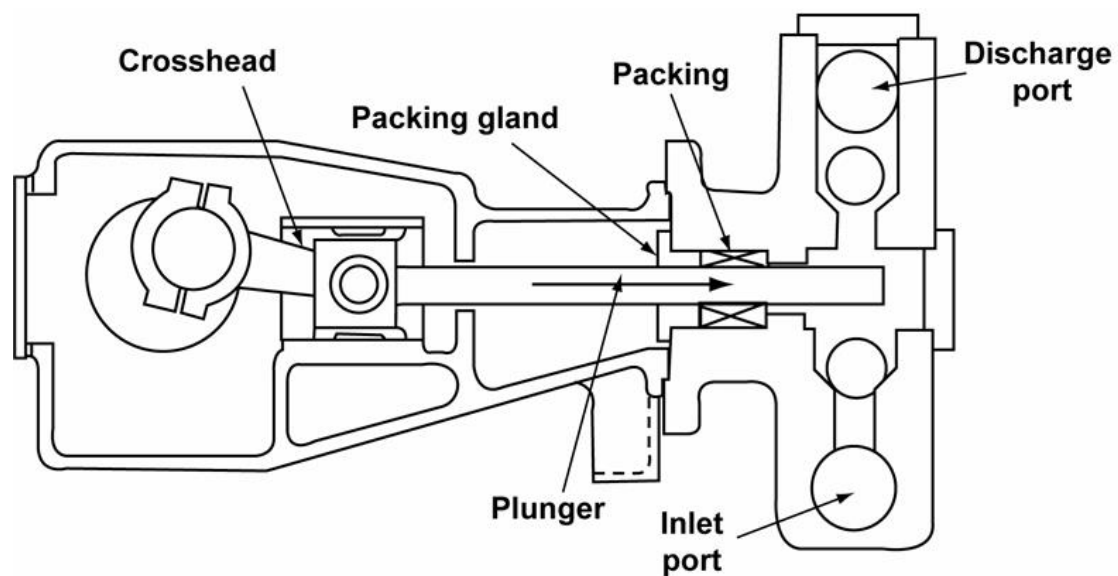

Figure 8.2 – Horizontal single-acting plunger power pump
1. Horizontal single-acting plunger power pump (Figure 8.2)